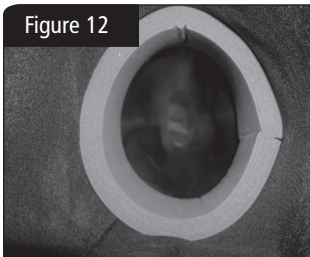

Figure 12
5. Stretch the jig until the ends meet forming a cylindrical shape. See Figure 12.